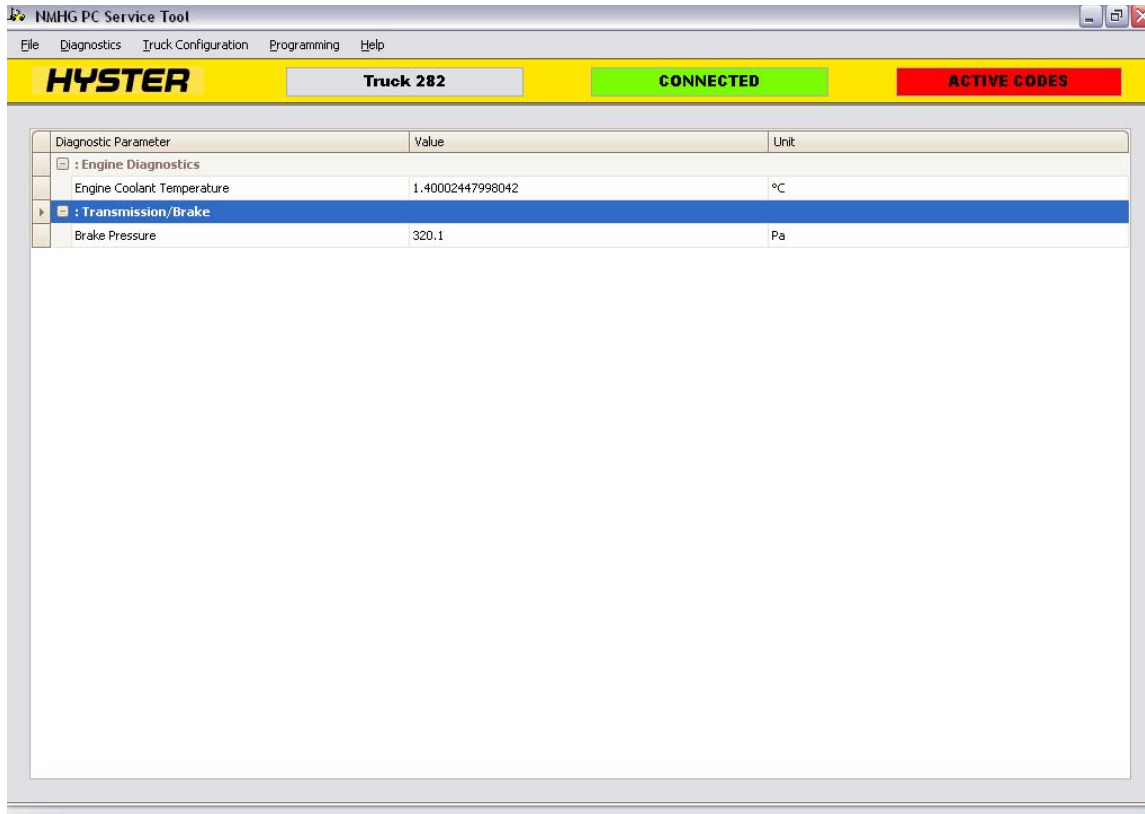

Figure 15: Custom Data Monitor Window
4. Click **OK** after selecting the desired data items. The Custom Data Monitor screen is displayed showing the items that were selected (as in Figure 15).